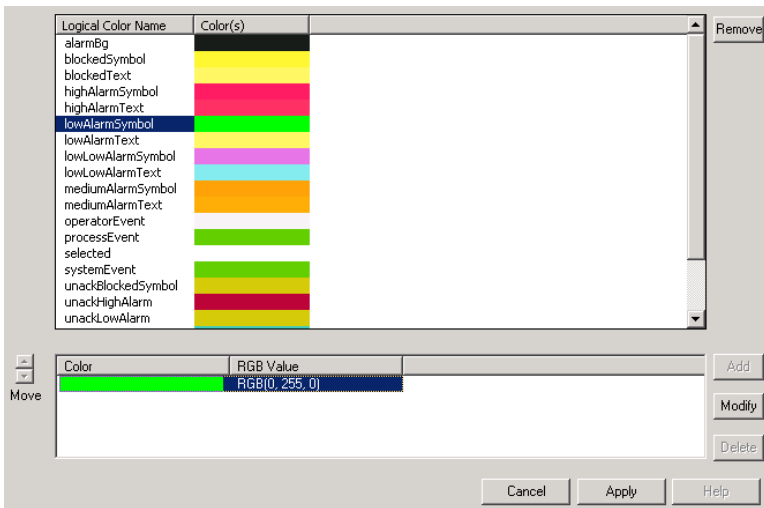

Figure 110. Logical Color Override Dialog with Colors Added
2. Select the logical color name you want to modify, then highlight the RGB value in the second section of the dialog box. See Figure 110.